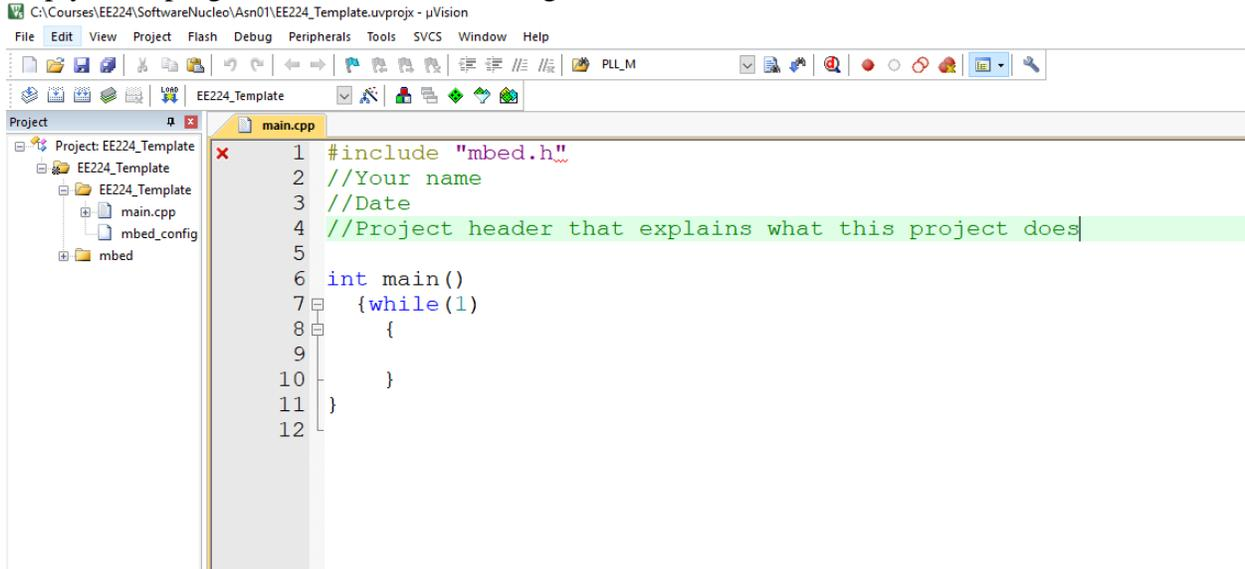

Figure 2.5
4. In the Asn01 folder double click on *EE224_Template.uvprojx*. This will open Keil 5 to an empty main program like that shown in Figure 2.5.